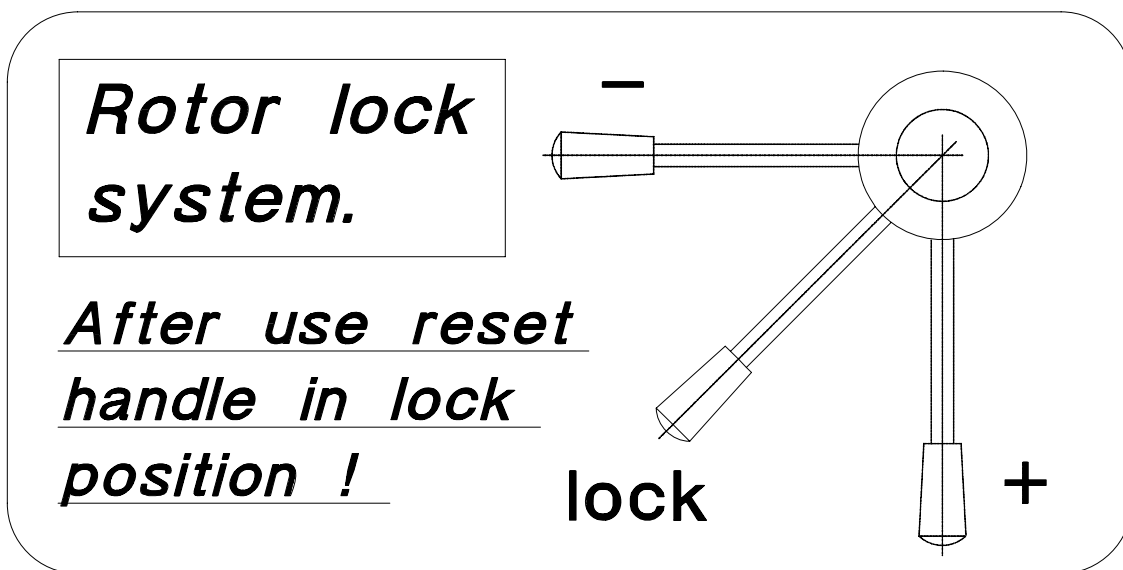

Figure 4 Handle positions
2. Align the locking system position holes in the hub with the locking system mandrels by "manoeuvring" the brake (press [*]) until the V-notch marking (pos. 1) on the hub is aligned with pointer on machine foundation (see pos. 2). See Picture 13.
3. At the correct position set the handle in "+" position and pump the locking system mandrels out. Observe at the right side during the pumping! See Figure 4.
5. When the mandrels are fully out or in, set the handle in "lock" position, see Figure 4. Verify the fully in or out position by looking at picture 11.7.B at the operator panel.